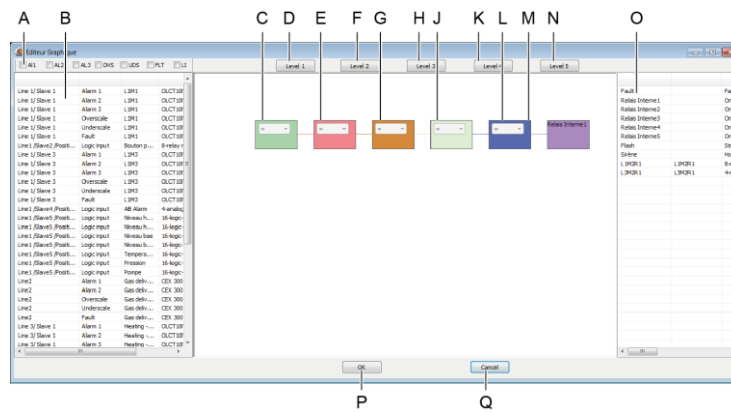

Figure 28: Function editor window
- Select an event (Figure 28 Figure 28, B) (in the example, the event referenced as A) and drag it to the first logic block (Figure 28 Figure 28, C). As soon as the mouse button is released, the event is displayed to the left of the block.
- Select a new event (Figure 28 Figure 28, B) (in the example, the event referenced as B) and drag it in the same way to the first logic block (Figure 28 Figure 28, C).